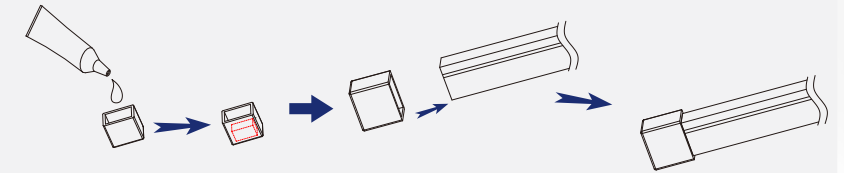
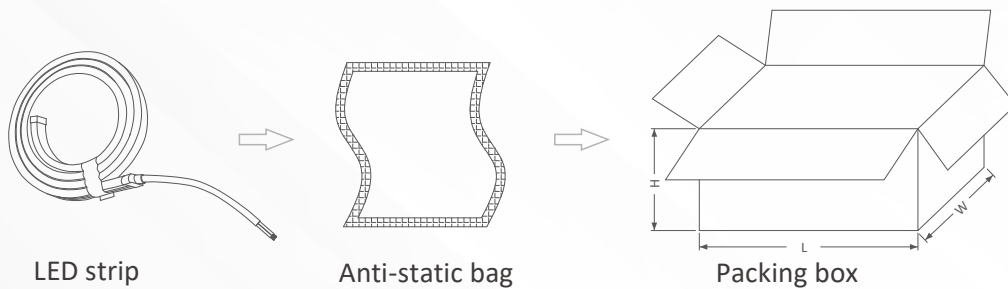

Figure 2
Figure 5
2. Fill the plug with glue, and put the neon flex into the plug, installation completed, as shown in Figure 2.
5. Put the wire encased into the plug, and repeat Figure 2 gluing steps, and then insert the neon flex into the plug, installation completed, as shown in Figure 5.